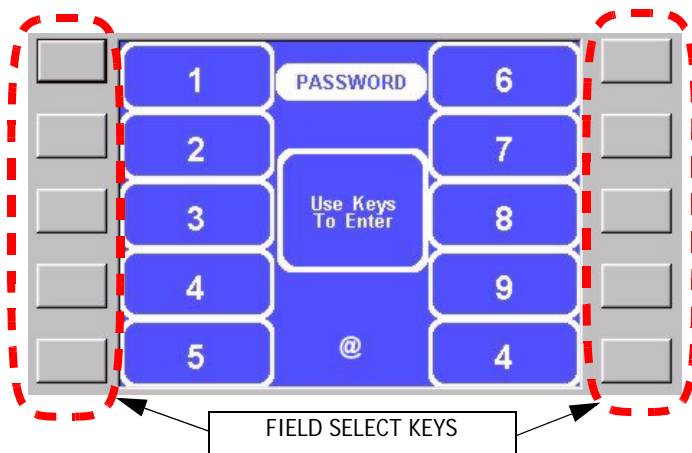

Figure 4-2. Password Menu
3. The system begins the start up sequence (the "Welcome Screen" is displayed and "Testing. Standby..." is flashing) as shown in Figure 4-2.